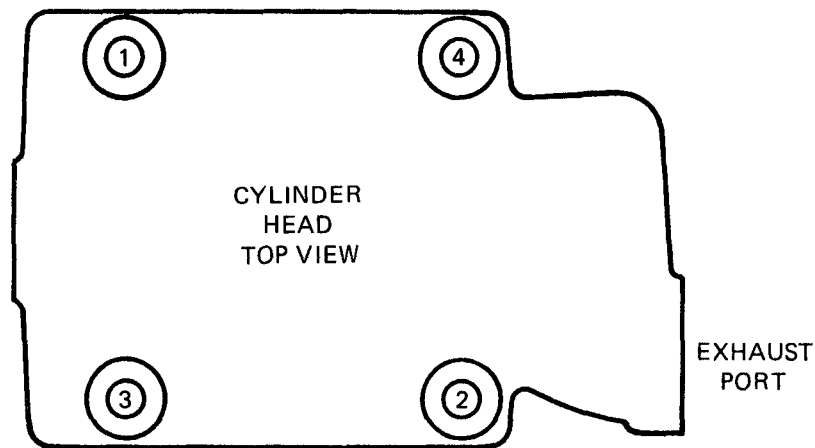

Figure 1-1. Cylinder Head Torquing Sequence.
- \*\*\* Before torquing, apply lube oil to stud and nut threads. Torque nuts to 20, 35, and finally 45 N.m. (15, 26, 33 ft lb) using the sequence 1-2-3-4-4-3-2-1-1-2-3-4. See Figure 1-1.